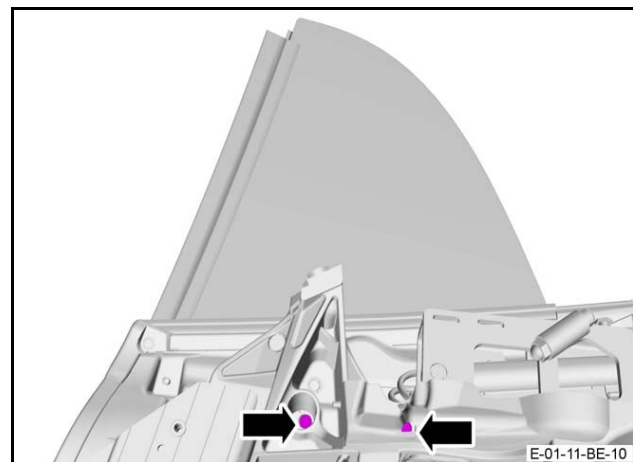

Figure 21
16. Torque the two quarter glass window attachment screws to 6 Nm (Refer to Figure 21).